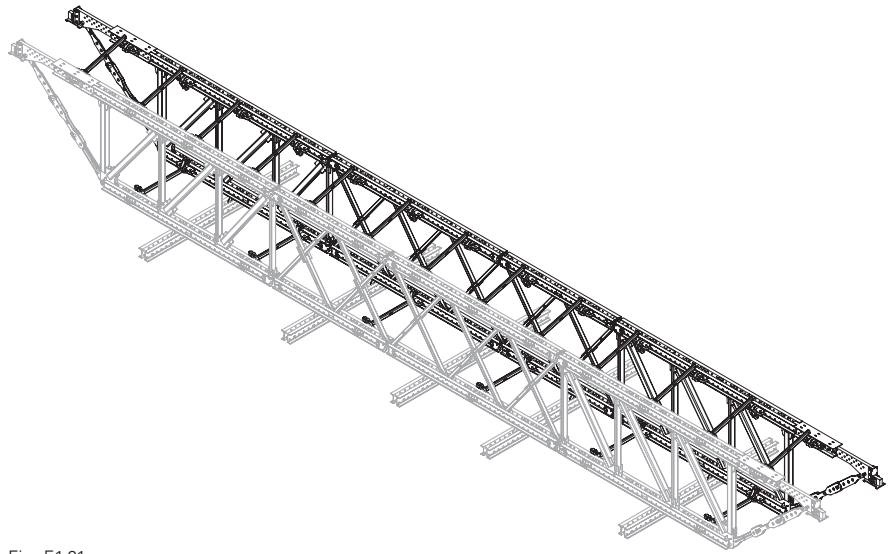

Fig. F1.01
1. Heavy-duty truss girder assembly. (Fig. F1.01)